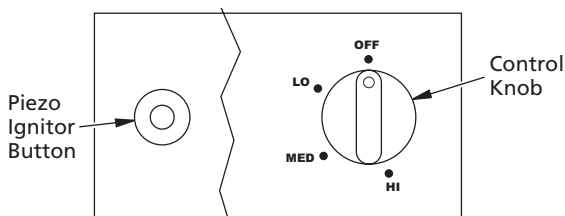

Figure 10 - Control Knob and Piezo Ignitor
5. Slightly depress and turn control knob counterclockwise to the LO position (See Figure 10).
8. When burner remains lit, set heater at the desired heat level by slightly depressing the control knob and turning it counterclockwise to the MED or HI settings (See Figure 10, page 8).